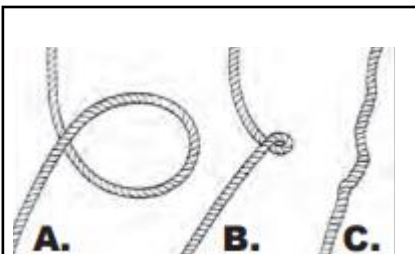

Figure 24
3. Ensure the cable is not kinked, or coiled up as shown in **Figure 24**. Uncoil as necessary or else **damage will occur**.